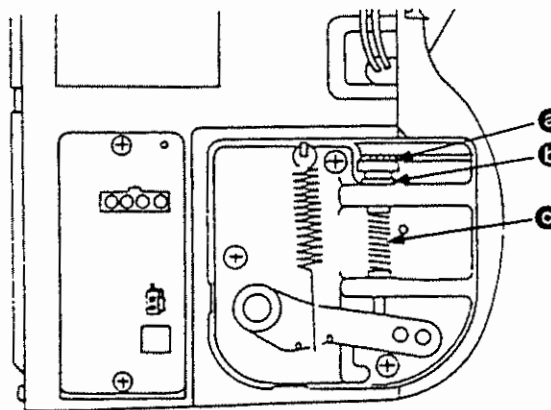

Fig. 1 Pedal sensor A asm.
(2) Attaching parts
- Loosen return pressure adjusting nut **b** in the pedal sensor A asm. (Fig. 1), remove return pressure adjusting screw **a**, remove return spring A **c**, and replace it with the return spring B. Then, assemble **a** and **b**.